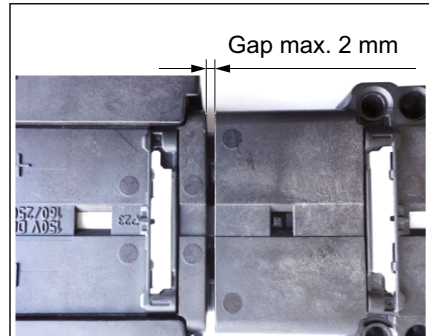

Fig. 10: Permissible gap between the collar of the pin housing and the socket housing
- ▶ Can the two halves of the connection not be completely plugged by hand (refer to **"Fig. 10: Permissible gap between the collar of the pin housing and the socket housing"**)?